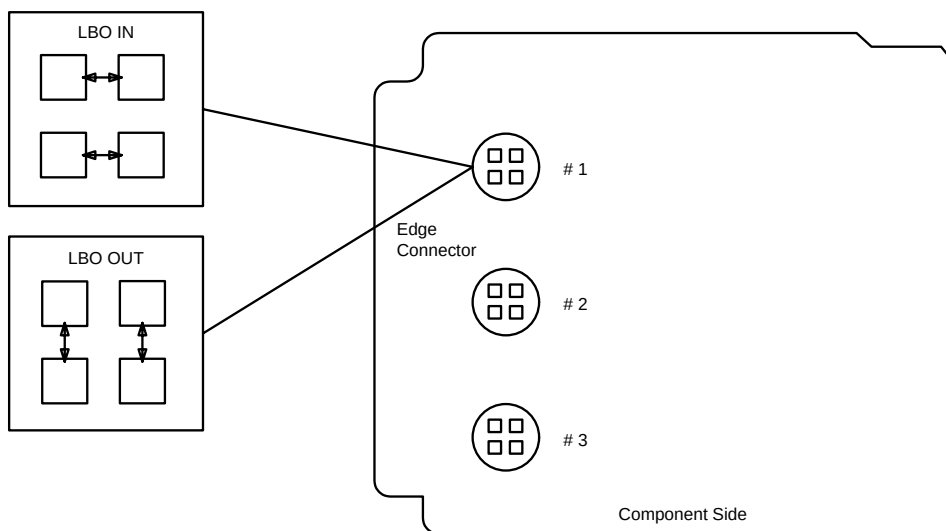

Figure 5. BBG11/BBG11B 3DS3 Option Settings
18. Install **3DS3** option jumpers per Table J and Figure 5.